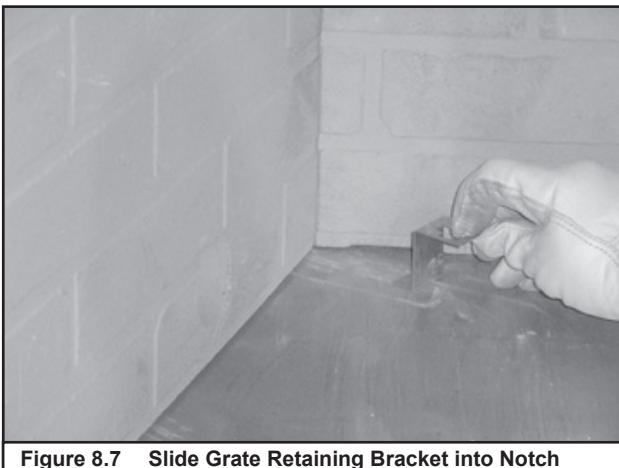

Figure 8.7 Slide Grate Retaining Bracket into Notch
- Slide grate retainers into notches in bottom of back refractory on each side as shown in Figures 8.7 and 8.8. Place one on each side of back refractory.